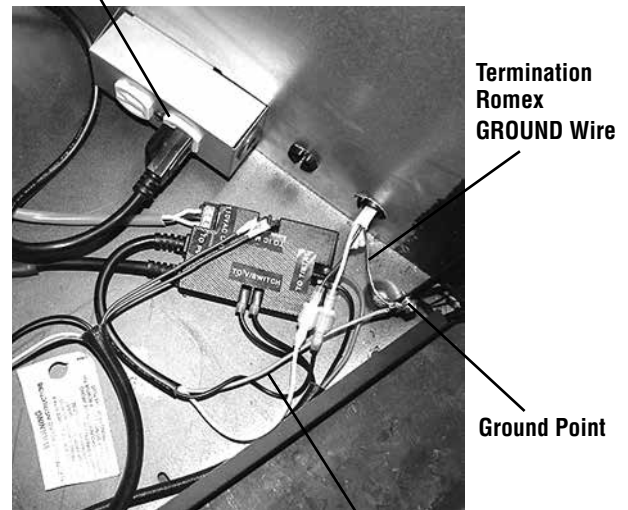

Figure 19
Connect the **termination Romex GROUND** wire **and control module GROUND** wire to the ground point with the provided screw (see **Figure 19**).
- 9A.10. Connect the **control module** power plug to the power socket (**Figure 19**).